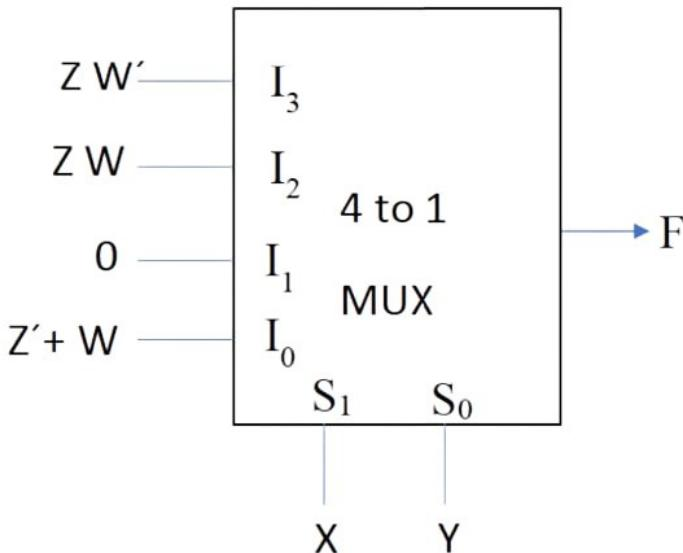

Fig. 4.28: Multiplexer
47. A 4×1 multiplexer with two selector lines is used to realize a Boolean function F having four Boolean variables X, Y, Z and W as shown below in Fig. 4.28. S_0